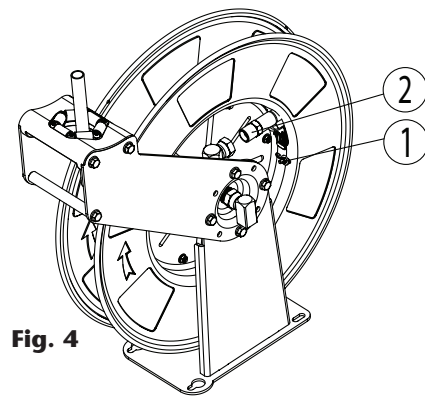

Fig. 4
2. Connect the new hose to the swivel (2) (fig.4) making sure the hose is placed on the plastic piece, and then hold the hose firmly to the spool using the P-Clip (1). It is not recommended to exert high force on the swivel, for this reason the hose must remain relaxed between the P-clip and the swivel, showing a gradual curve.
2. Remove the P-clip (1) (fig. 4), and disconnect the hose from the swivel (2) (fig. 4).
4. Connect the new hose to the swivel (2) (fig.4) making sure the hose is placed on the plastic piece, and then hold the hose firmly to the spool using the P-Clip (1). It is not recommended to exert high force on the swivel, for this reason the hose must remain relaxed between the P-clip and the swivel, showing a gradual curve.